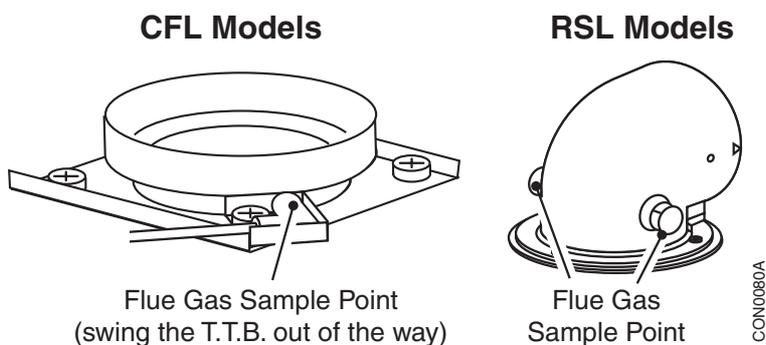

Fig. 24
2. Re-fit the front cover, plinth, top cover and controls panel (see Fig. 24, page 26).
Loosen the screw securing the Products Discharge Safety Device (TTB) and swing it away from the flue gas sampling opening, (see Fig. 24). After operating the appliance for 5 minutes take a lighted smoke match and hold it at the entry of the opening. *The majority of the smoke should be drawn into the flue.*